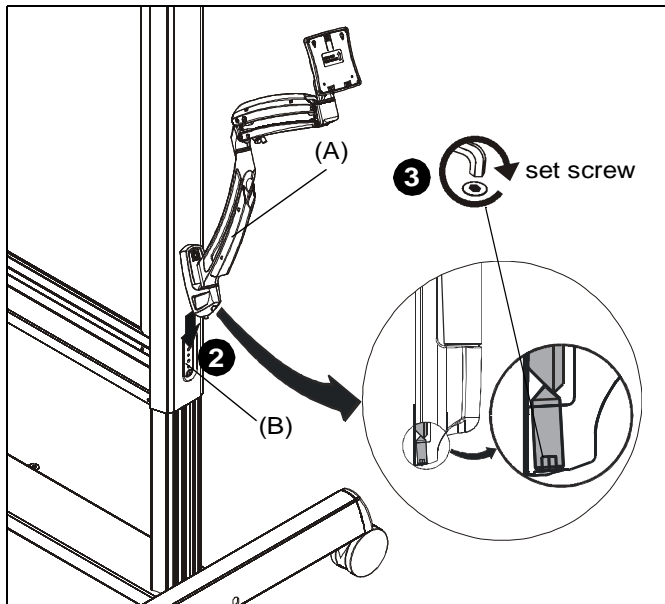

Figure 2
2. Hang swing arm (A) onto attachment bracket (B). (See Figure 2)
3. Secure swing arm (A) to attachment bracket (B) by tightening set screw. Ensure set screw engages back side of attachment bracket (B) to properly secure mount. (See Figure 2)